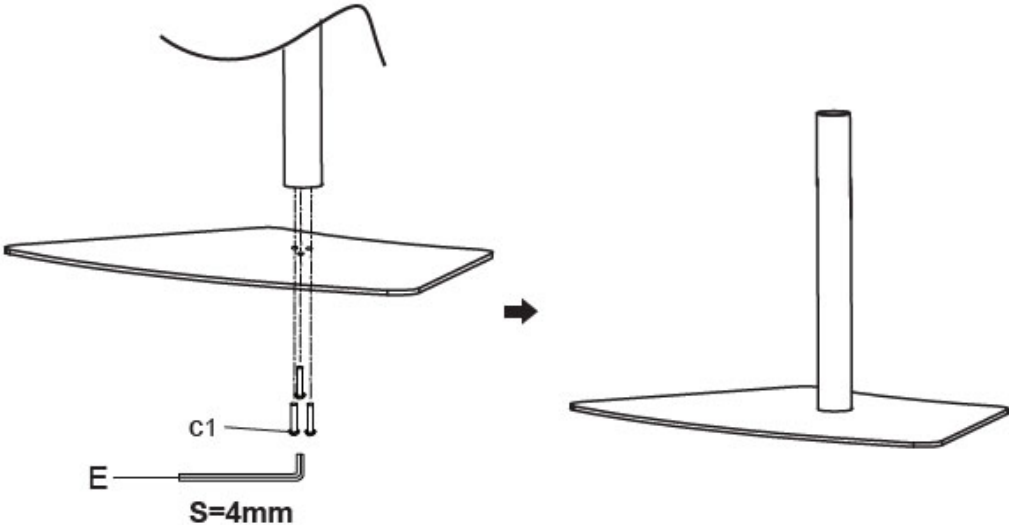

Figure 1
Mount the **Tube Support** to the **Weighted Base** using 3 **M6x16 Bolts (c1)**, tighten them using the **4mm Allen Key (E)**, see **Figure 1**.